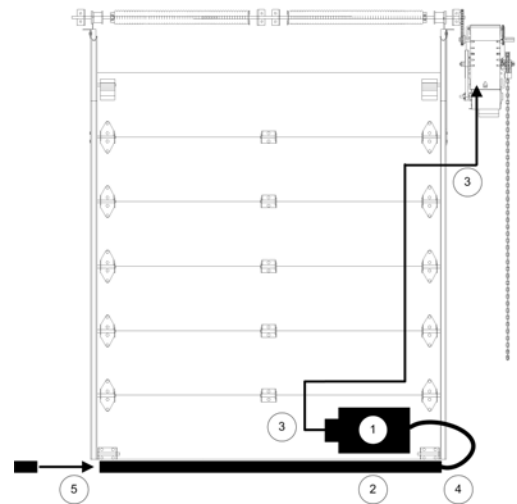

Figure 13 - Reversing Edge
1. Place the air switch in position, refer to Figure 13.
1. Place the junction box in position, refer to Figure 13.